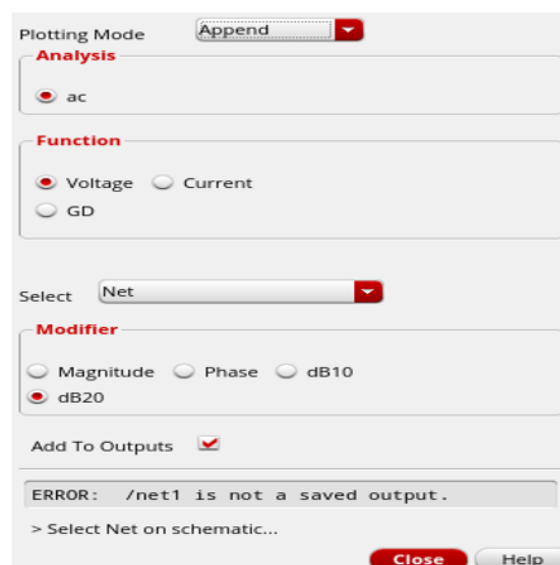

Fig.13 Direct Plot Form
6. By checking the DC operating points of the circuit, you should confirm that the transistors are working in the saturated region. Select “**Results**”→ “Direct Plot”→ “Main Form”→”dB20” and click the line of “VOUT” of the circuit, as shown in Fig. 13. Use “Esc” key to terminate the selection as shown below. The simulation results will pop up on the main screen. Capture the screen and report the value of R.